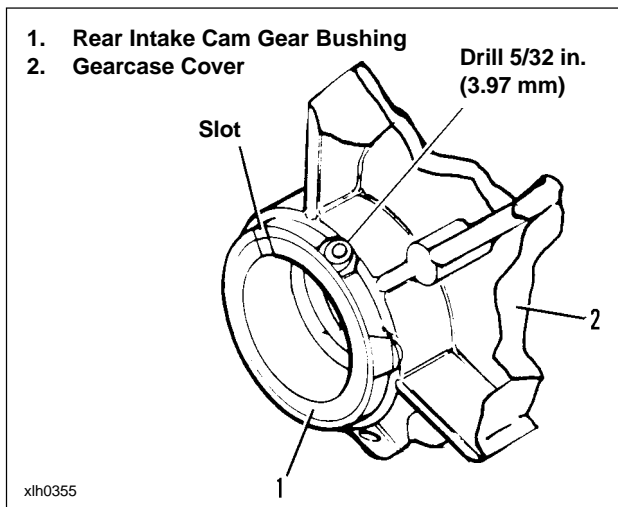

Figure 3-63. Rear Intake Cam Gear Bushing Installed in Gearcase Cover
2. See Figure 3-63. Position bushing (1) over bore of gearcase cover (2) with chamfered edge downward and slot upward. Align slot in bushing with slot in gearcase cover boss. Press bushing into cover bore until bushing is flush with cover boss.